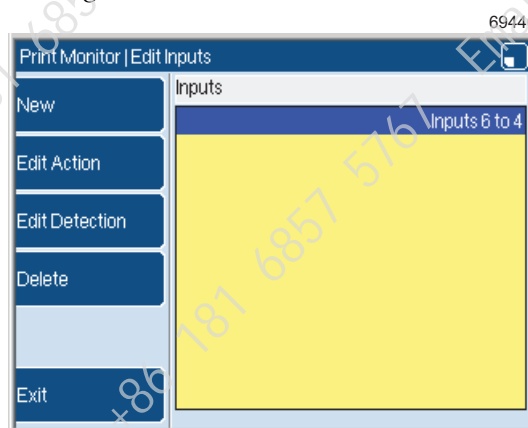

Figure 21. Edit Inputs page
- 1 At the **Edit Inputs** page (see Figure 21 on page 14), press the **Edit Action** key to display the following page.
- Press the **Exit** key to return to the previous page (see Figure 21 on page 14).
- 1 At the **Edit Inputs** page (see Figure 21 on page 14), press the **Edit Detection** key to display the **Edit Detection** page.